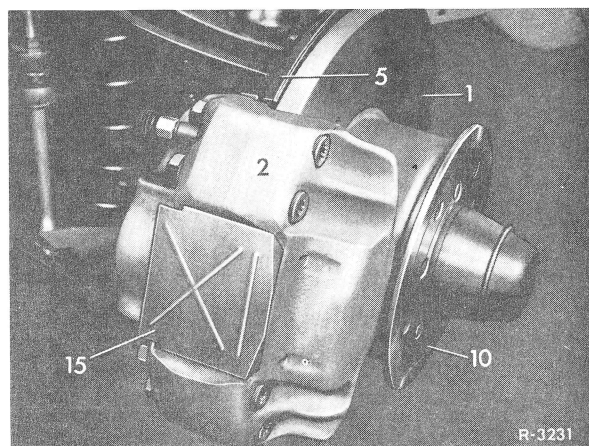

Fig. 2
1 Remove shaft cover plate (15) on caliper — on front wheel brake only, on calipers with 57 mm piston dia. and solid brake discs (Fig. 2).